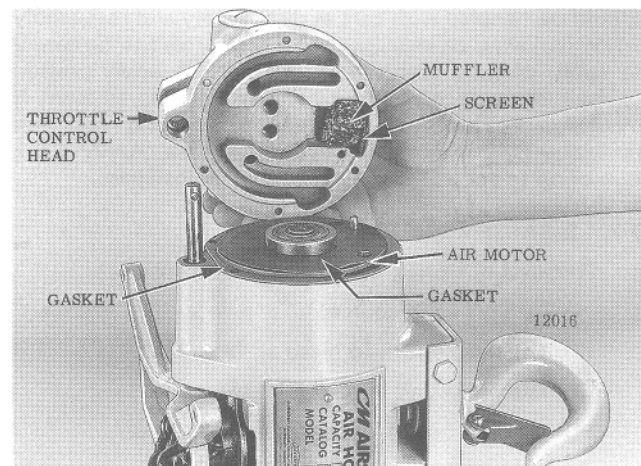

Figure 7-6. Removing Control Head Assembly.
(1) Remove control head assembly by taking out six socket head screws and lifting assembly from frame (Figure 7-6).